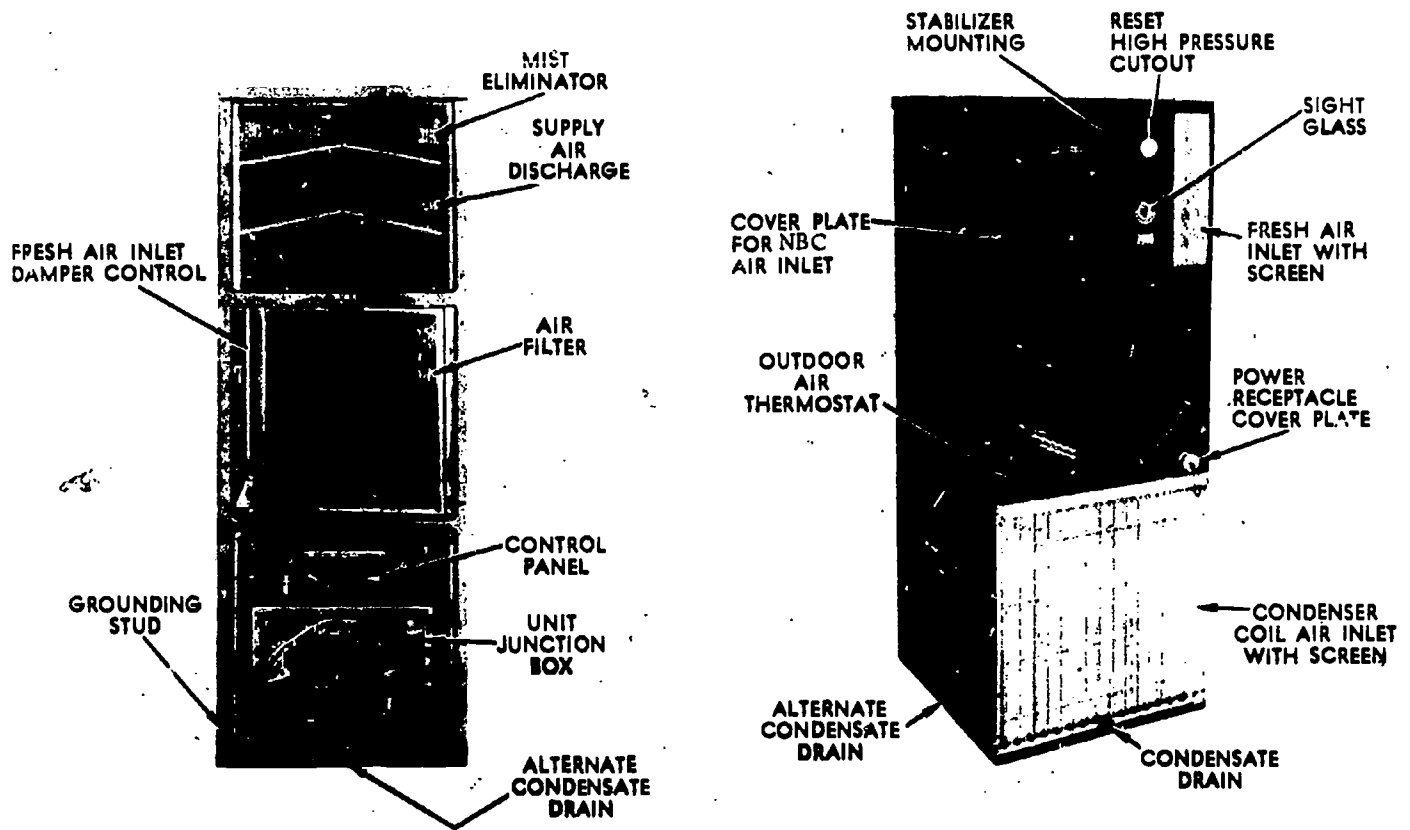
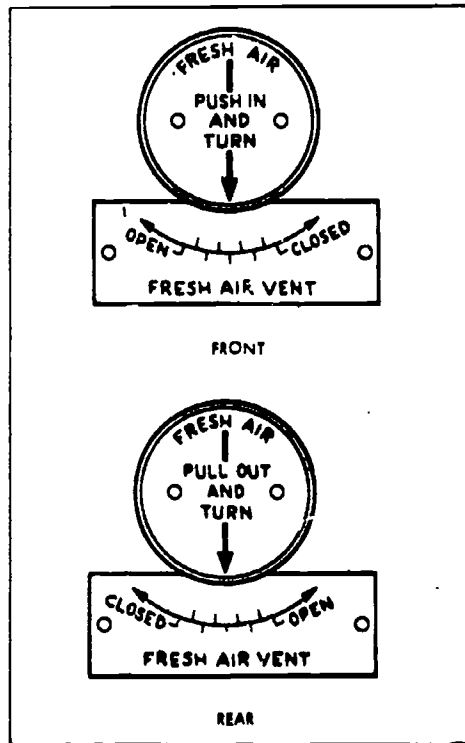

Fig 4-19. Component location, A/E32C-17 and A/E32C-18.
Fig 4-24. Damper control knobs.
- (9) The control panel, shown in figures 4-19 through 4-23 and in figure 4-24, is located at the front of the unit. This panel may be mounted remotely by means of an interconnecting cable assembly. A blank cover panel may be installed in the front panel opening when remote control is used.
- (3) **Damper control.** The fresh air inlet damper, located within the unit, is controlled by a pull chain on the front of the smallest units and by a knob on the two biggest units (this knob may be on the front or on the back of the unit). When the fresh air damper is opened, the louvers on the conditioned air inlet on the front of the unit should be closed if the maximum of fresh air is desired. These louvers are controlled by a lever on the front of the unit. An air inlet is provided on the back of the unit for attaching the NBC filtered air system to the unit. When the NBC system is in use, the fresh air inlet damper must be closed. Figure 4-24 shows how to operate the damper knob.
(7) High-pressure cutout switch. The high-pressure cutout switch is a manual reset type. Contacts open at 445 psig + 10 psig, and will close after being reset manually at 385 psig or below (see fig 4-19).
(8) Back-pressure regulator. The back-pressure regulator is designed to regulate evaporator pressure to a minimum of 58 psig to prevent evaporator coil freezeup.